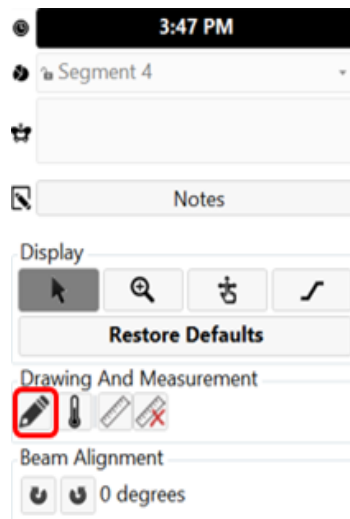

Figure 57: Prostate-boundary 'Drawing' tool on Delivery screen
2. Once delivery is paused, expand the right panel in the Delivery workspace to select the prostate boundary drawing tool (*Figure 57*).